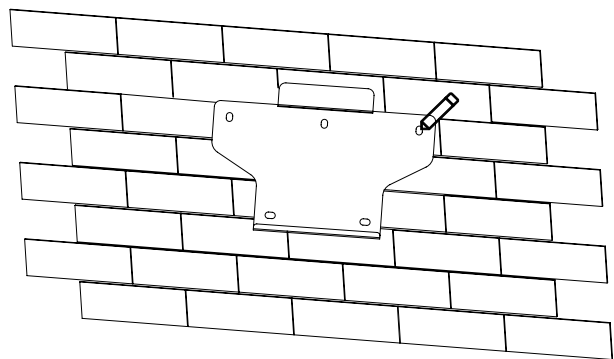

Figure 4-5 Marking hole position using installation bracket
① Use the wall bracket as the template to mark the position of 5 holes on the wall. See Figure 4-5 for details: